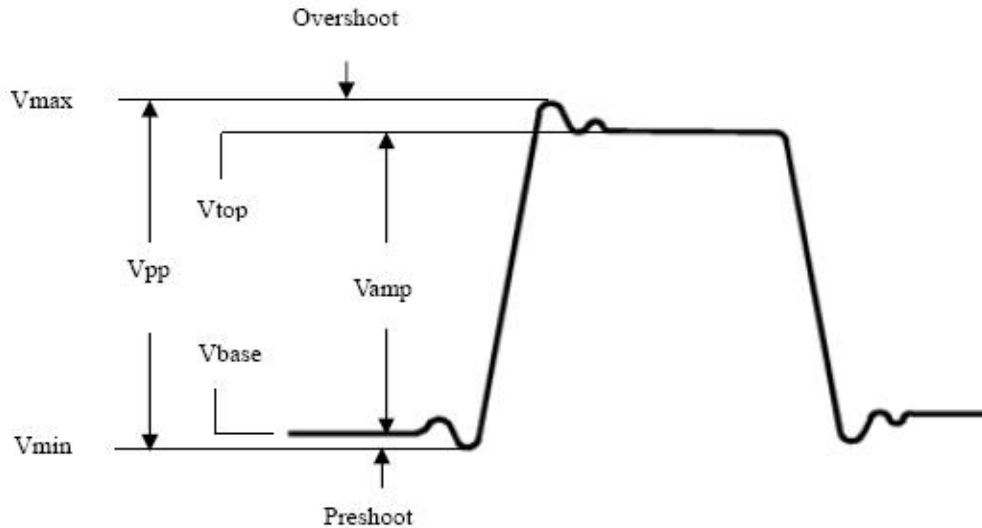

Fig.5-55
The SDS5032E(V) oscilloscopes provide automatic voltage measurements including V_{pp} , V_{max} , V_{min} , V_{avg} , V_{amp} , V_{rms} , V_{top} , V_{base} , $V_{overshoot}$ and $V_{preshoot}$. **Fig.5-55** below shows a pulse with some of the voltage measurement points.